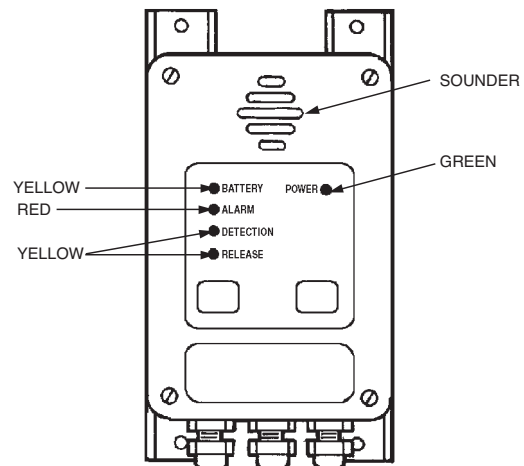

FIGURE 17
► **FRONT PANEL INDICATORS** (See Figure 17)